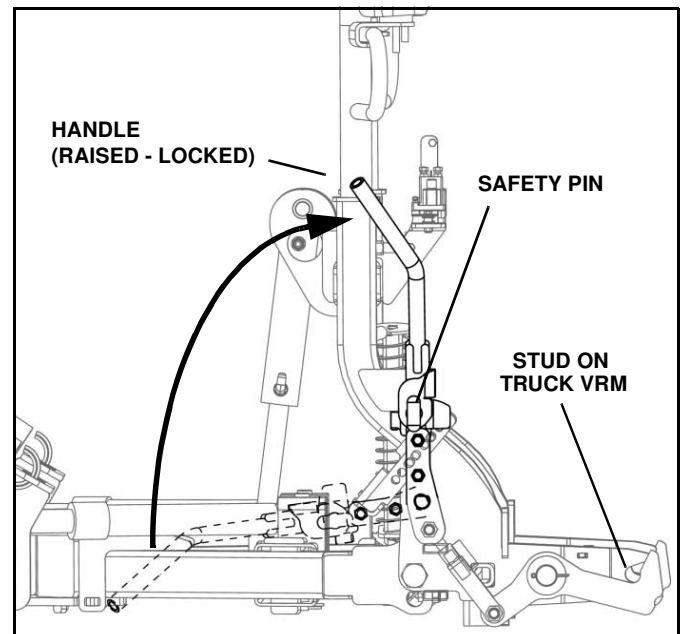

Figure 1-35
36. Pull up engagement handle to engage plow onto stud on VRM, ensuring that the safety pin is fully engaged. (See Figure 1-35).